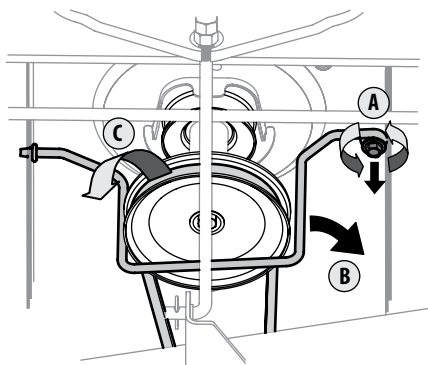

Figure 4-11
- Remove the belt-keeper rod, from around the rider's engine pulley, by removing the self-tapping screw (A) that secures it. See Figure 4-11.
- Remove the belt (C) from around the rider's engine pulley and idler pulley(s). See Figure 4-11.